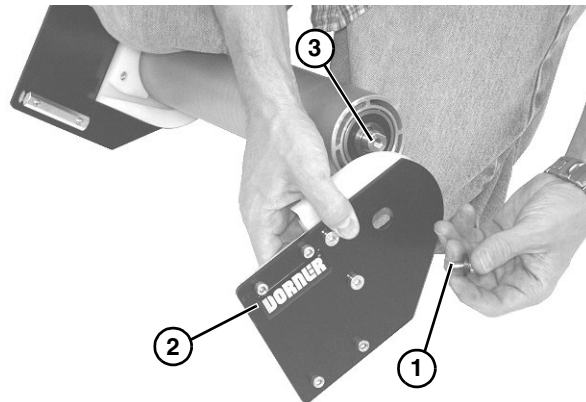

Figure 49
4. Remove socket head screw (**Figure 49, item 1**) from plate (**Figure 49, item 2**) and center of spindle shaft (**Figure 49, item 3**). Repeat procedure on opposite side.